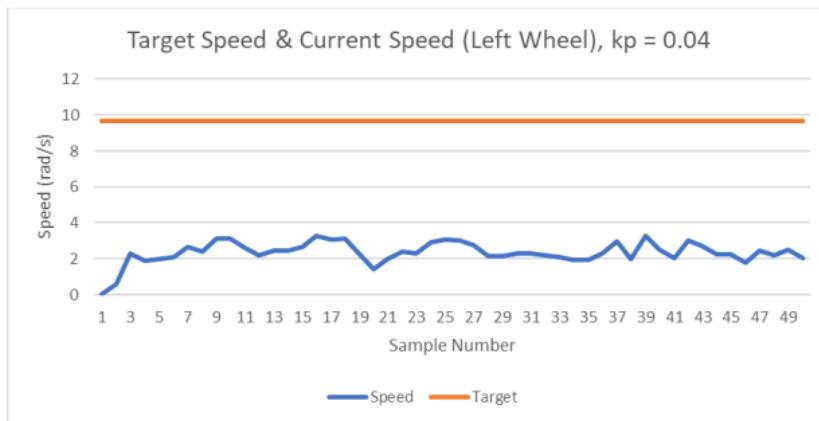

Figure 3
- c. Graph both the Current Phi's and the Target Phi's. The result should resemble something close to the graph shown in Figure 3